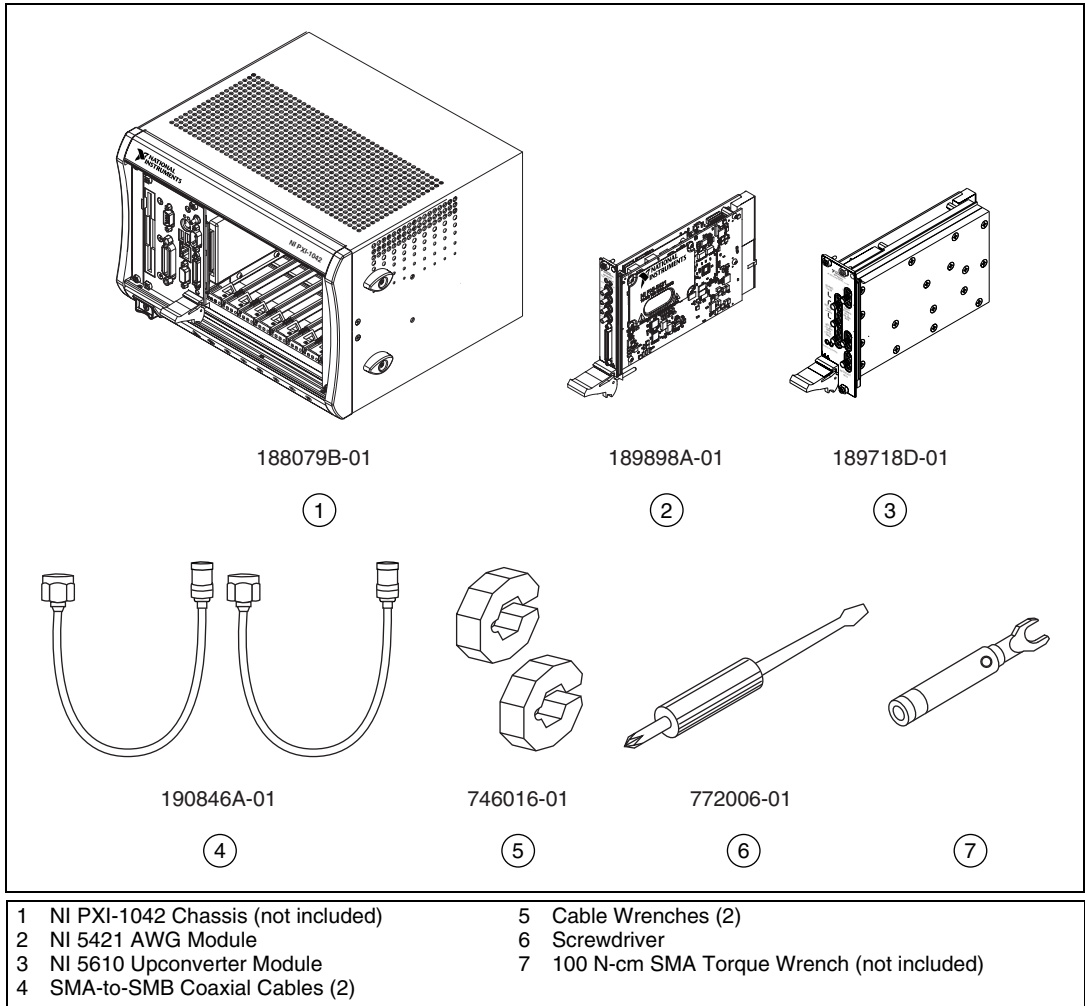

Figure 1-3. NI 5670 Required Parts Inventory and Replacement Part Numbers
- ❑ The following hardware components, as shown in Figure 1-3.